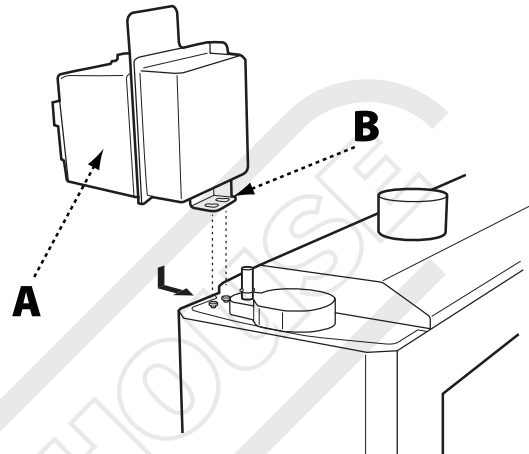

FIG. 2
1. Locate the two threaded holes on the upper right side of the machine as shown in Fig. 2.
3. Mount switch assembly (A) to the machine frame by aligning the keyholes (B) in the switch assembly over the screw heads and pushing the assembly back and into position.